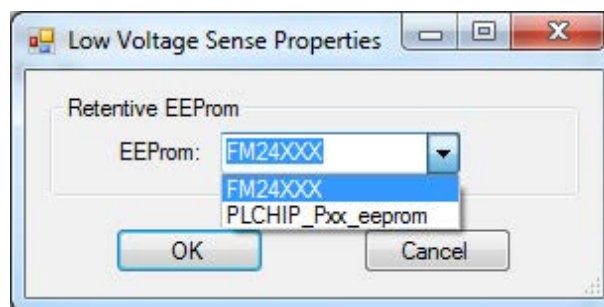

Figure 7-4
3. Click the **ADD DEVICE** button. The *PLCHIP-PXX Devices* window will open. Locate the PLCHIP_Pxx_eeprom in the Devices pane of this window. Refer to Figure 7-4.